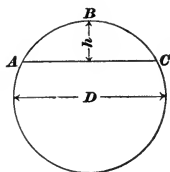

FIG. 49.
**83.** To find the area of a segment of a circle (a **segment** of a circle is the area included between a chord and its arc; for example, the area  $ABC$ , Fig. 49) when its chord and height are given. There is no exact method, except by applying principles of trigonometry. The following rule gives results that are exact enough for practical purposes.
The rule, expressed as a formula, is as follows, where  $D$  = the diameter of the circle and  $h$  = the height of the segment (see Fig. 49):
**NOTE.**—Had the chord  $AC$ , Fig. 49, been given instead of the diameter, the diameter would have been found as explained in Art. 75.